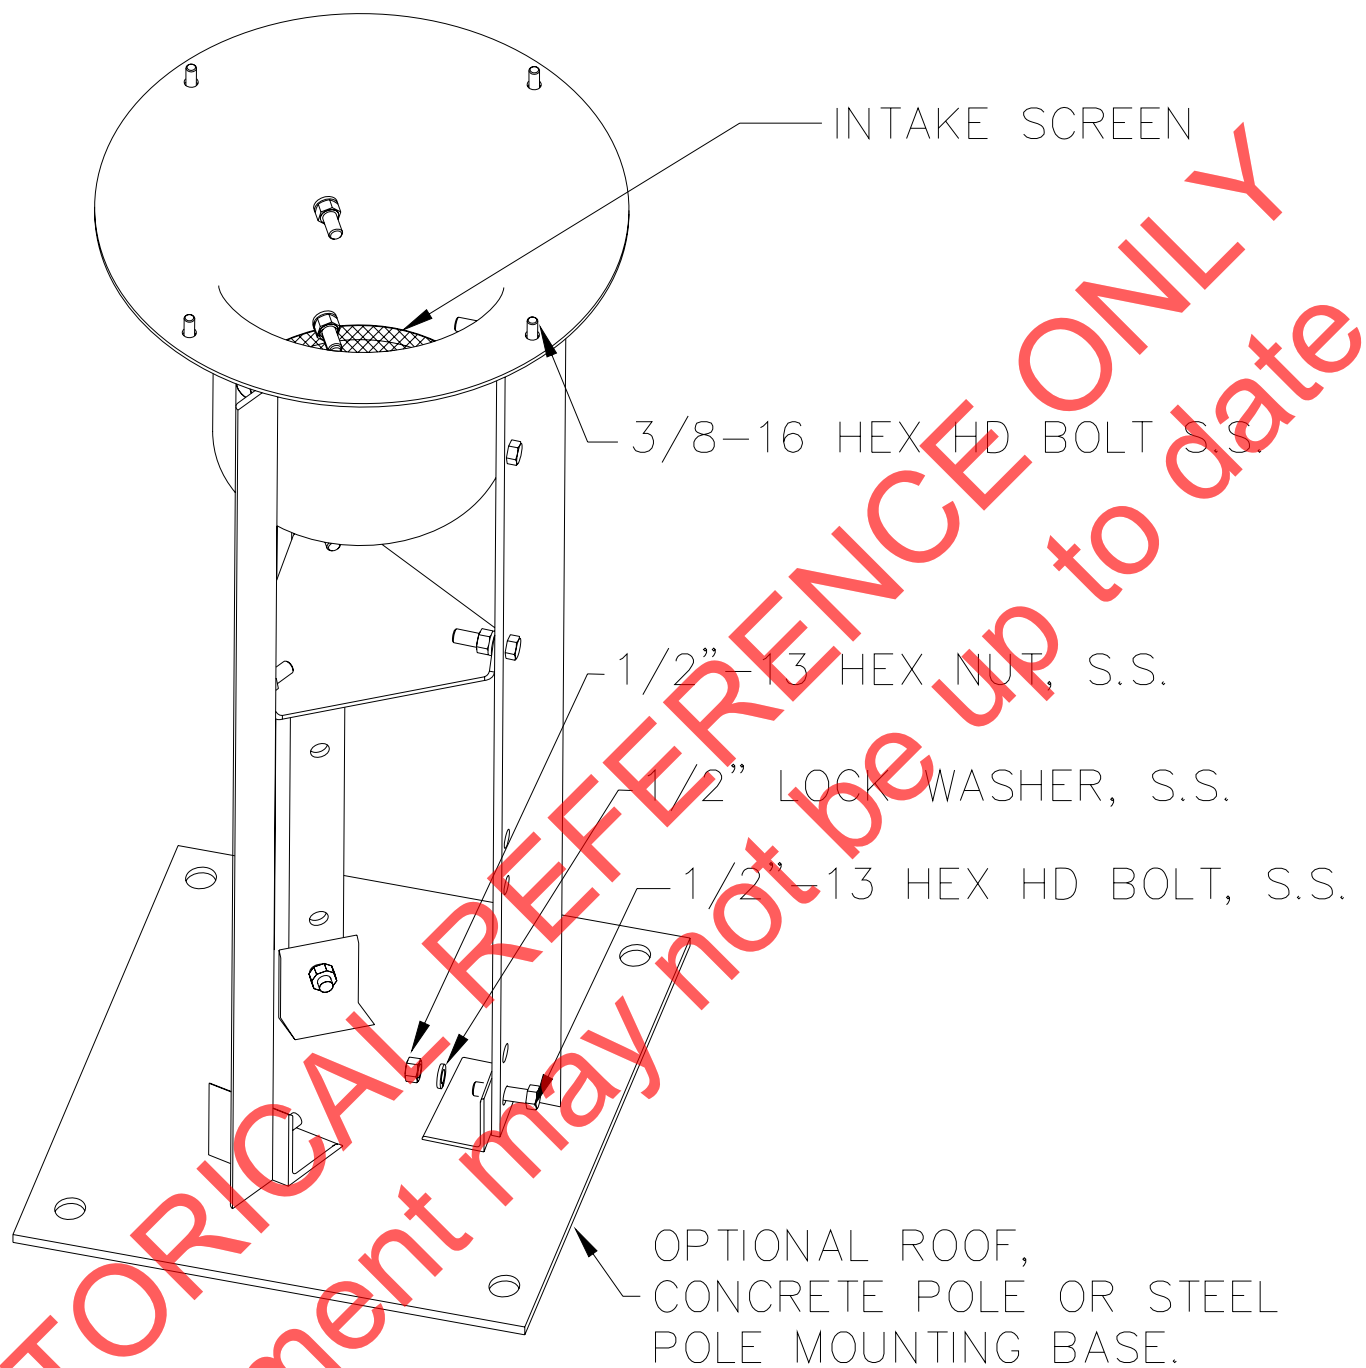
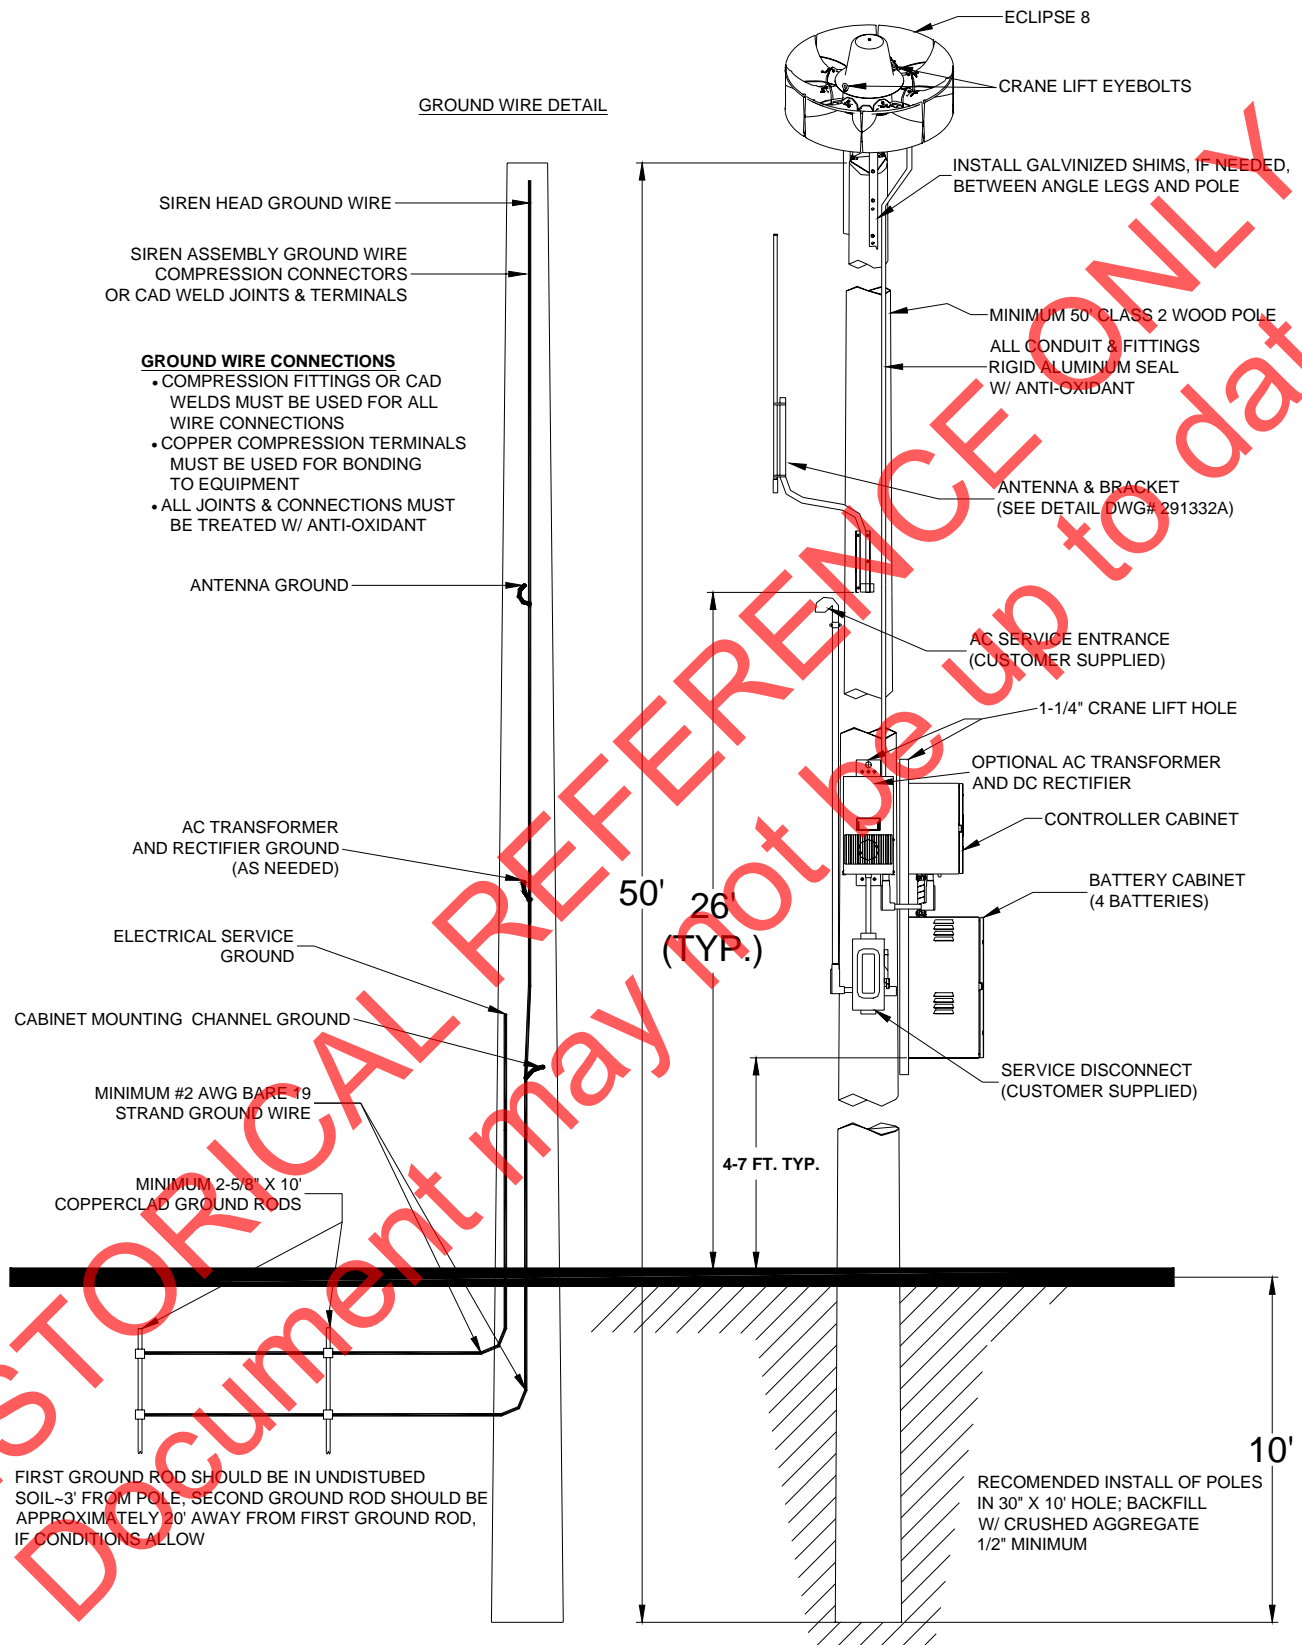

Figure 3-1. Siren Leg Assembly.
Figure 3-2. Typical Pole-mounted Installation
A typical siren pole-mounted installation is shown in figure 3-2. The siren is mounted on a Class 2 utility pole at least 40 ft. above the ground. It is attached to the pole by means of legs, as shown in figure 3-1.
4. Install the siren grounding as shown in figure 3-2.